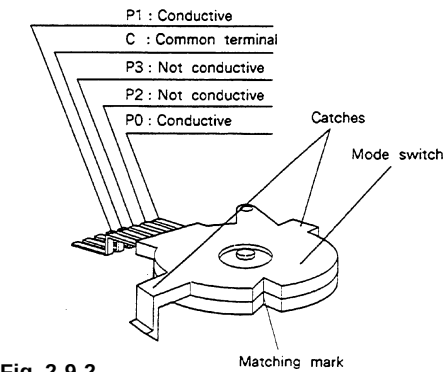

Fig. 2-9-2
- Line the matching marks of the mode switch. (Refer to Fig. 2-9-2.)